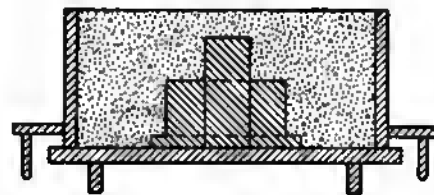

FIG. 180.
4. When they are thoroughly rammed, strike off (Fig. 180).